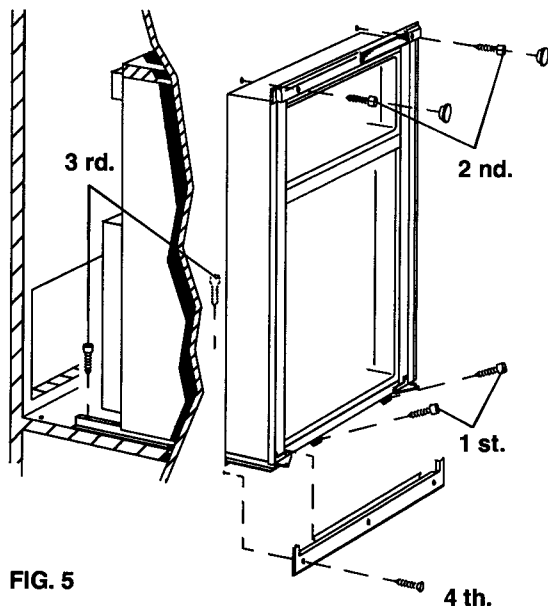

FIG. 5
**STEP 4:** The refrigerator is provided with a lower front strip (shipped as a loose part). The front strip is to be attached after the refrigerator is set into the cutout opening, and secured with 3 screws. (See FIG. 5).